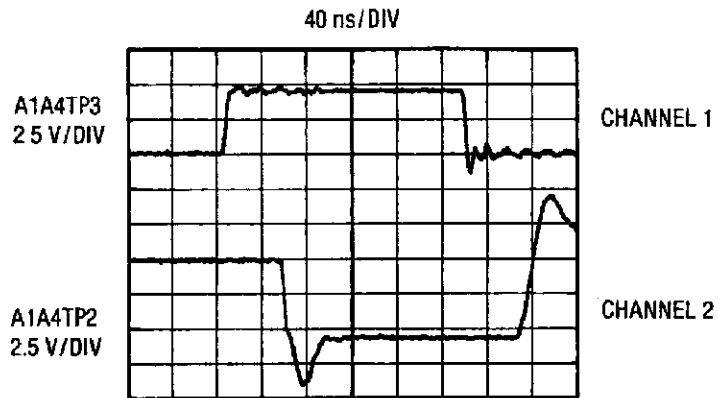

Figure 8-54. Pulse Driver Board Output and Shunt Pulses
16. Connect channel 1 of the oscilloscope to A1A4TP3 and Channel 2 to A1A4TP2. Set Channel 1 display at top of screen. Set oscilloscope controls as shown in figure 8-54 and compare the display to the figure.